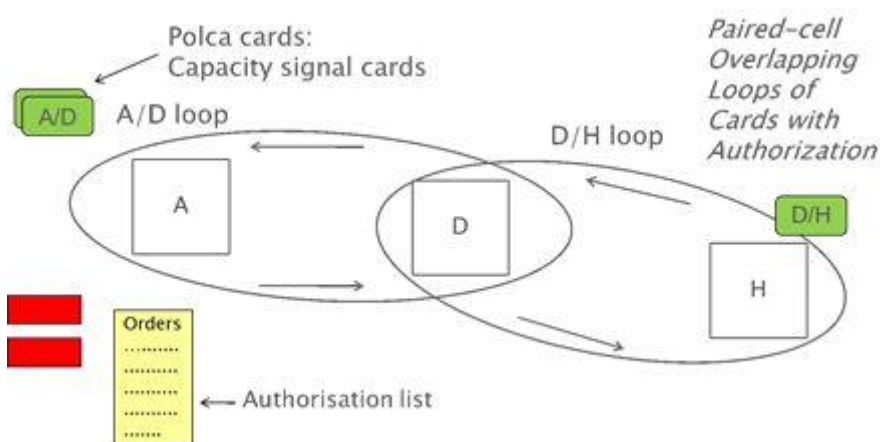

Figure 1: Two overlapping POLCA loops with POLCA cards
- Pull signal: POLCA achieves this by means of an ingenious card system with overlapping loops. Two consecutive workstations in a routing form a loop (ellipses in Figure 1). A limited number of 'POLCA' cards circulate in each loop. A POLCA card is basically a capacity signal that indicates that processing capacity is available. A work order may only enter a loop if a free card of this loop is available. Once an order enters a loop, then a card is attached to the order. Once an order leaves a loop, then the card is returned to the first station of the loop and stored on a visual board. The card then becomes available for a next order. The last station can always start and doesn't need an additional card. At the intermediate stations, (like D in figure 1), two cards will be attached to the order: an A/D card and a D/H-card. Only one card is attached at the first and last station.